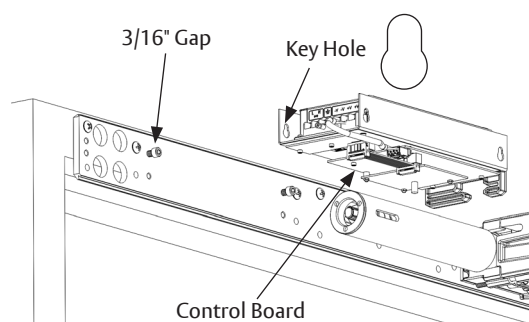

Figure 9
1. Insert two (2) screws. Leave 3/16" gap between head of screw and backplate. (Figure 9)
2. Slide power supply key holes over screws allowing narrow slots of key holes to rest on screws. (Figure 9)
NOTE: Narrow slots of key holes are always at top and control board is always at bottom for proper installation. (Figure 9)